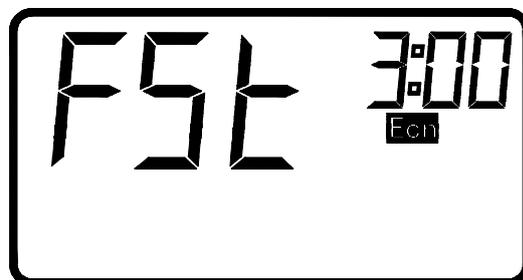

Fig. 8: Start time of filtration is 3:00 o'clock
3. When A2= OFF and the system is under the status of “start time of filtration setting” (Fig. 8), press “” key to change the start time for hours, the “minutes” setting is always 00(It means the minimum time range is hours).